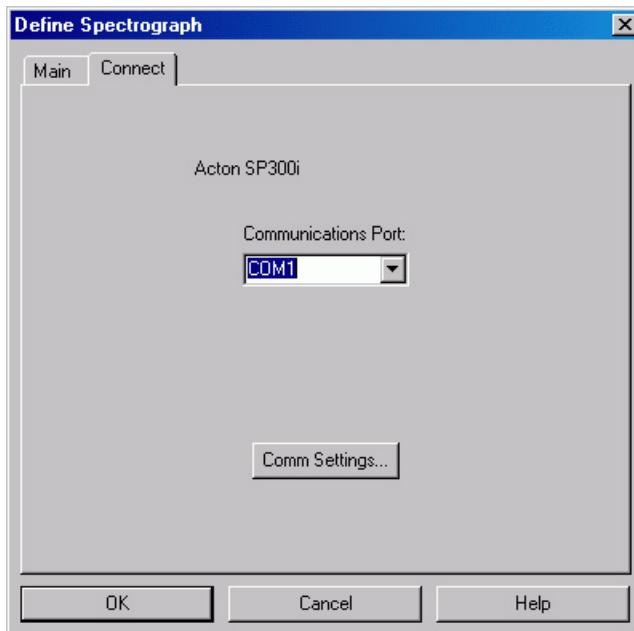
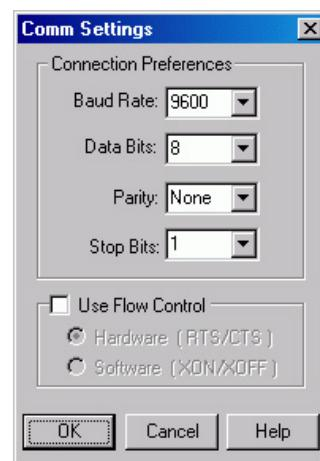

Figure 23. Connect tab page
Figure 24. Comm Settings dialog box
4. Click on **Comm Settings** (Figure 23). This will open the Comm Settings dialog box as shown in Figure 24.